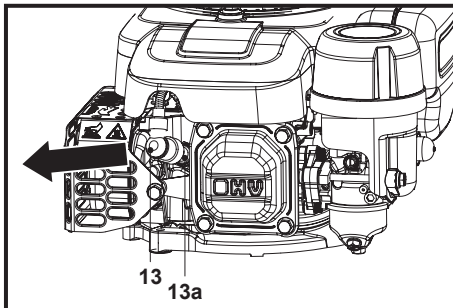

Fig. 20
- Disconnect the spark plug connector (13) (Fig. 20).